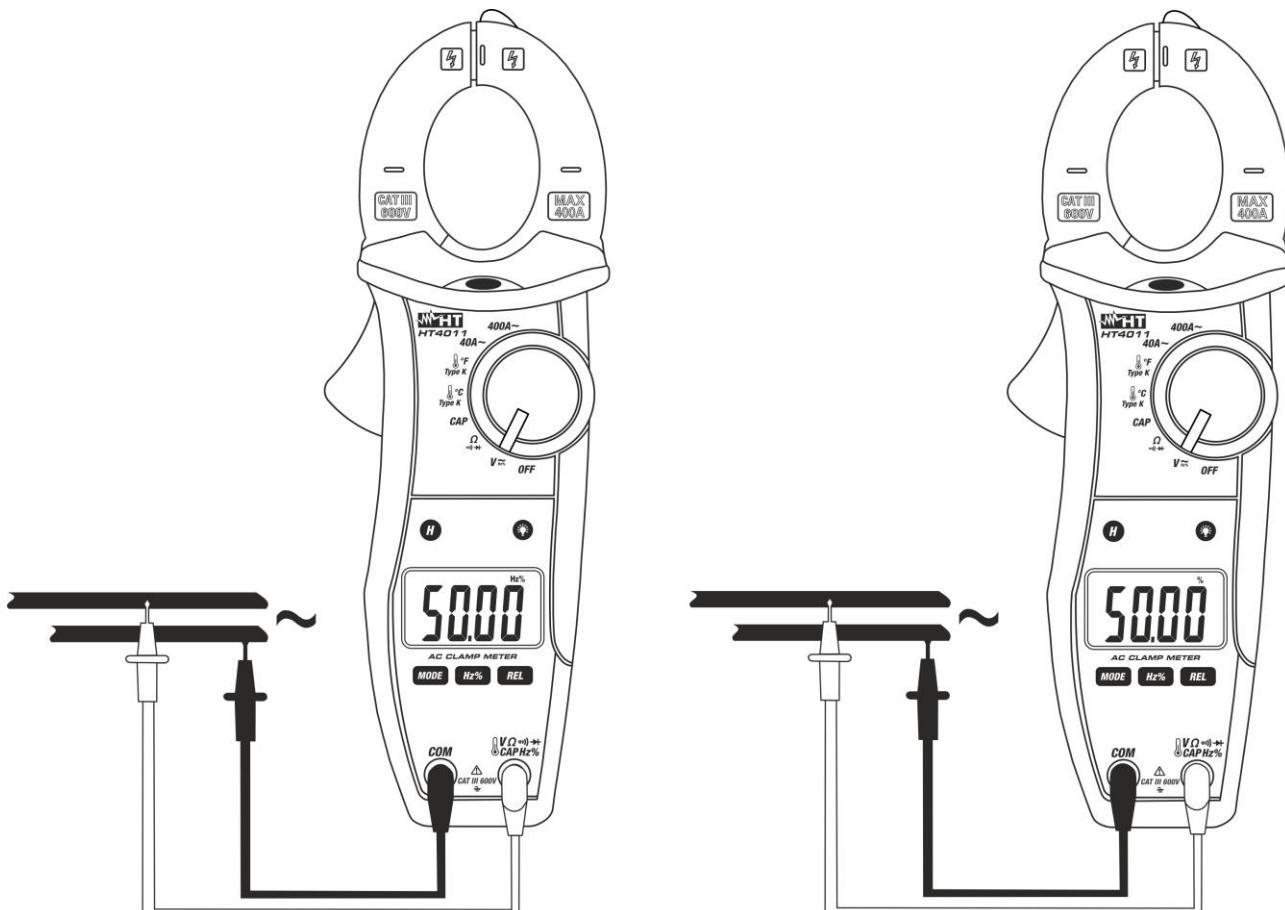

Fig. 5: Use of the clamp for frequency measurement and duty cycle
- Position the test leads in the desired points of the circuit to be measured. The value of frequency (Hz) (see Fig. 5 – left part) or of duty cycle (%) (see Fig. 5 – right part) is shown on the display.